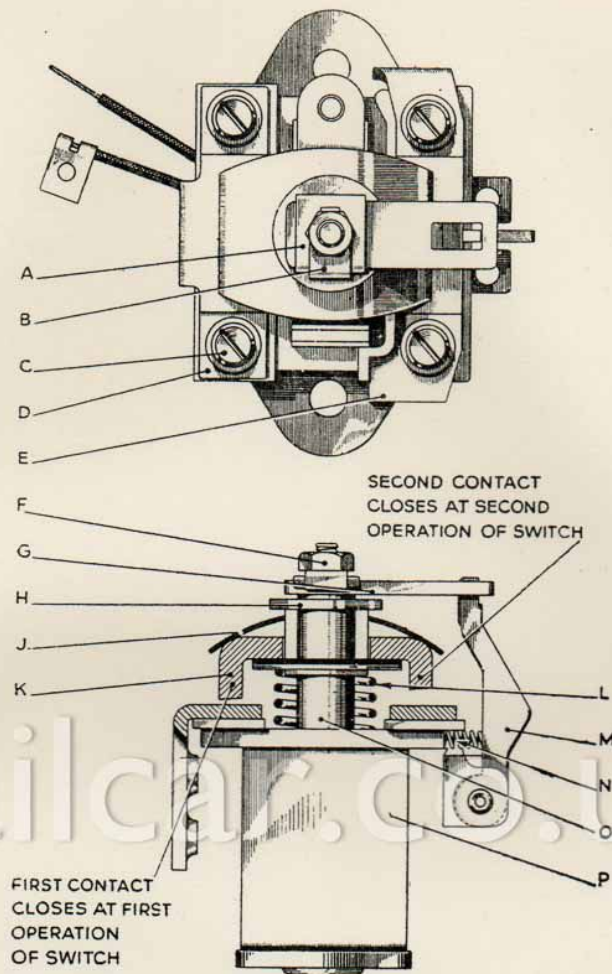

FIG. 19. SOLENOID SWITCH.
1. To dismantle switch, release locking washer (B), Fig.19, remove nut (F), catch holding plate (A), trigger catch (G), bridge piece (K) with flat spring and insulating washer. Take care that trigger spring (N) does not fall out when catch is removed.
2. Remove fixed contacts by taking out retaining screws (C), Fig.19.
The air gaps are shown in Fig. 19.